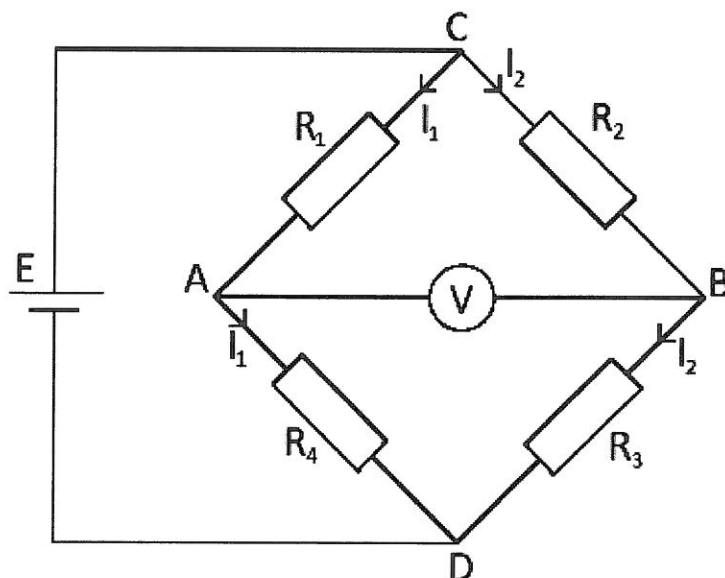

Fig 1.
a) The amount of deformation of a body due to a force applied is called Strain. Strain can be both tensile or compressive although when dimensionless strain is measured it is expressed in units of Inches/mm. When applying a given force to a structure the length of the structure will change, Strain is the ratio of this change in dimension. To measure the change a Strain gauge which is glued to the structure is used. If there is any distortion to the material it will have a knock on effect and cause a distortion of the strain gauge. Containing conducting material the gauge's distortion will result in a change in its resistance. To measure a strain along a length of steel is to place two gauges on two different sides of the steel. The gauge will measure the length on one side and the depth and also width along the other, units used is ohms (resistance). The strain gauges have a set resistance value when installed as this is because it would not get recorded without a datum as the results would be unreliable. To measure the change in resistance a Wheatstone bridge circuit is used (See Fig 1.) As shown below each arm has a resistor of a known resistance (R_1 , R_2 , R_3 , R_4) or a strain gauge. The gauge will occupy 1, 2 or 4 of the arms. A factor which may change the resulting resistance is the temperature, but computerised systems are able to automatically compensate for that factor. If R_1 , R_2 , R_3 and R_4 are all equal and a voltage V_{in} is applied between the points of A and also C, then the output between points B and D will not have a potential difference. However if R_4 is changed to a value that does not equal that of R_1 , R_2 and R_3 then the bridge will become unbalanced and a voltage will then exist at the output terminals.